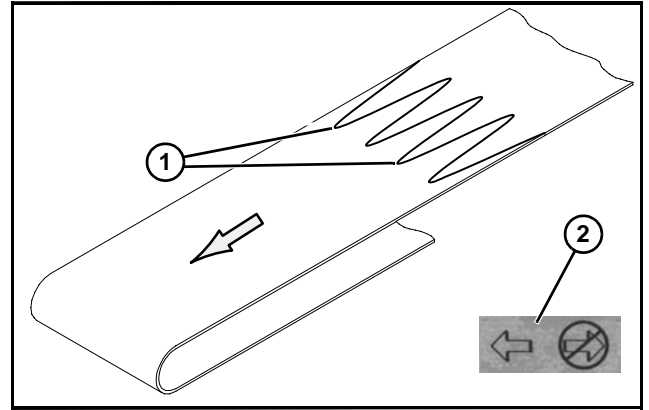

Figure 97
2. Orient belt so splice leading fingers (**Figure 97, item 1**) point in the direction of belt travel as identified by the conveyor directional label (**Figure 97, item 2**).